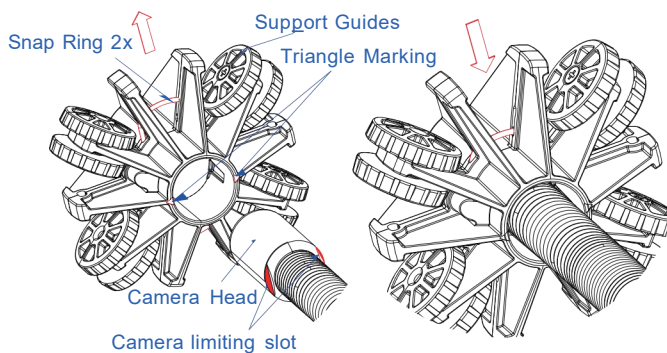

Figure 13. Install 100 Support Guides
d. Install 100mm support guides. (Figure 13.)